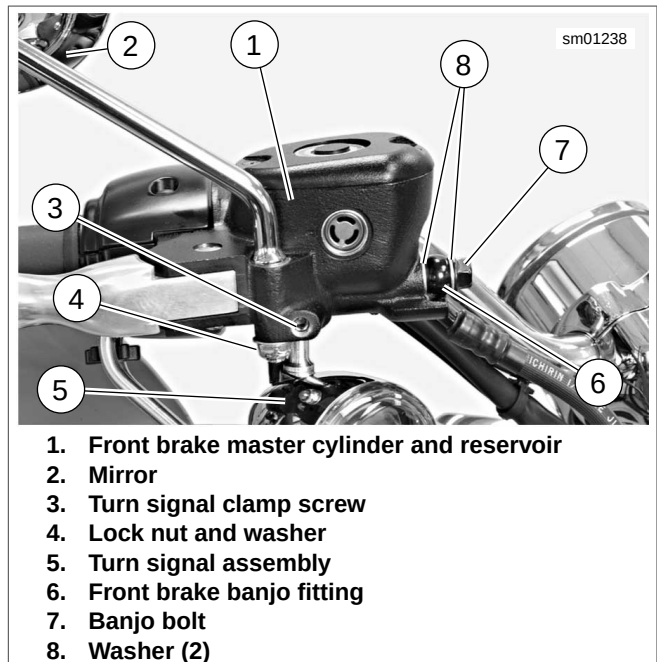

Figure 2-77. Front Brake Master Cylinder (typical: XL model shown)
3. See Figure 2-77. Position a **new** washer (8) on each side of hydraulic brake line banjo fitting (6). Insert banjo bolt (7) through washers and fitting. Thread bolt into master cylinder housing. Tighten to 20-25 ft-lbs (27.1-33.9 Nm).
15. See Figure 2-77. Install mirror (2), secure with lock nut and washer (4). Position mirror for best rearward visibility. Tighten lock nut to 96-144 **in-lbs** (10.9-16.3 Nm).
16. Install turn signal assembly (5). Position so turn signal lens faces directly forward and turn signal does not strike fuel tank when handlebars are turned full right. Tighten clamp screw (3) to 96-120 **in-lbs** (10.9-13.6 Nm).